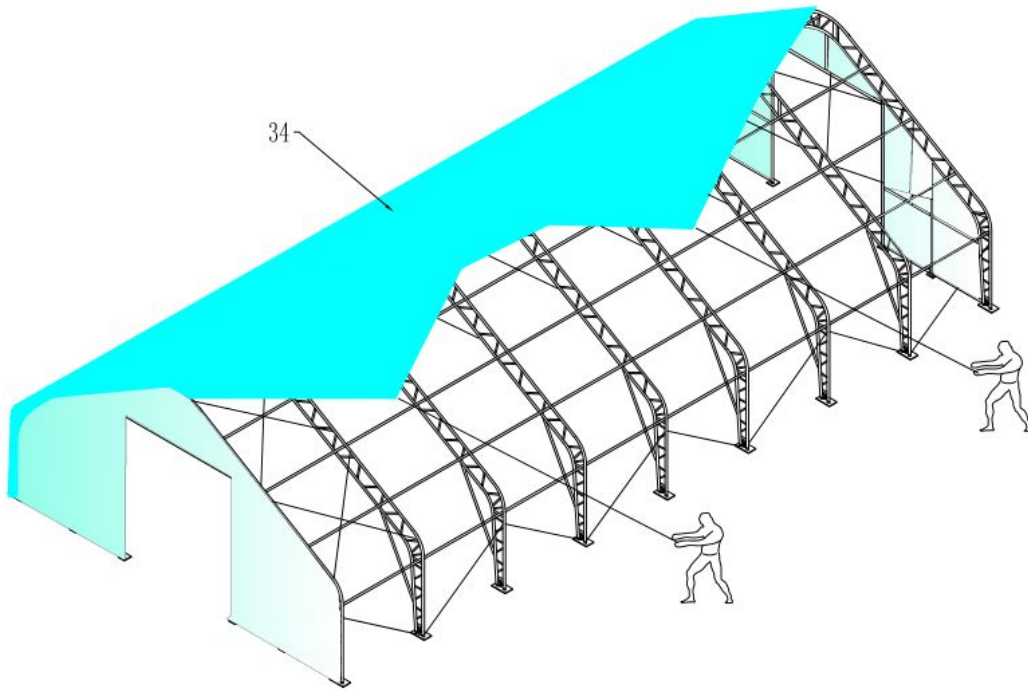

Figure 10
1. As Figure 10 shows, when Roof cover is over top of Frame assembly (see Figure 10)